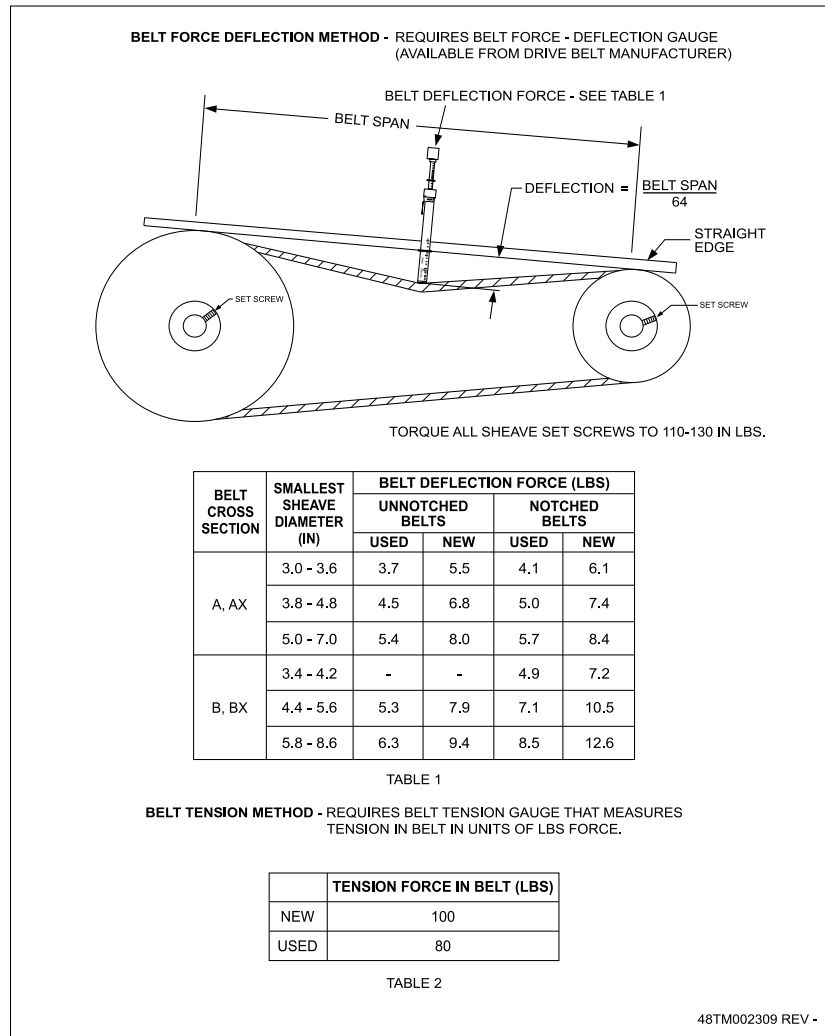

Fig. 81 - V-Belt Force Label
Measure the belt span length as shown in Fig. 81. Calculate the required deflection by multiplying the belt span length by $\frac{1}{64}$. For example, if the belt span length is 32 inches: $32 \times \frac{1}{64} = \frac{1}{2}$ inch deflection.
2. Set the tension gauge to the desired tension (see Table 1 in Fig. 81). Place the large O-ring at that point.